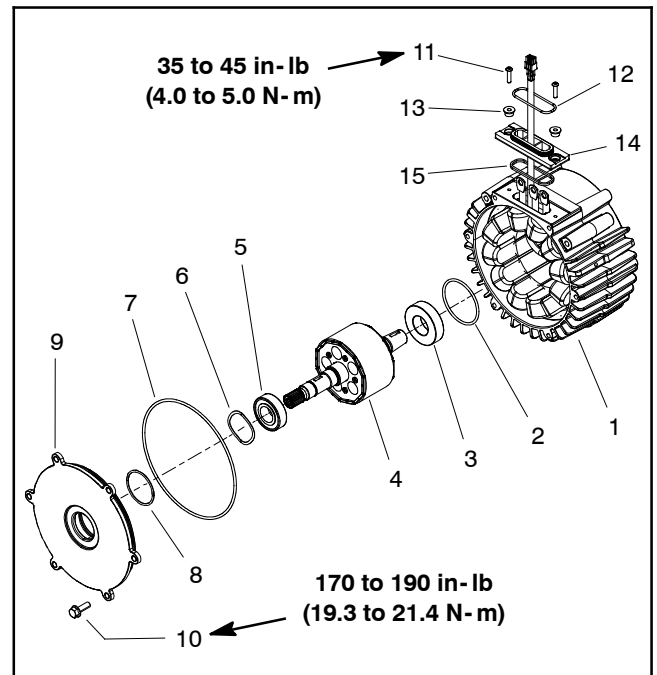

Figure 100
6. Remove nut (item 19) that secures fan to motor/generator shaft.
7. Remove motor/generator fan and two (2) spacers from motor/generator shaft. Locate and retrieve woodruff key.
8. Remove internal motor/generator assembly components (Fig. 100):
- A. Remove six (6) flange head screws that secure cover to housing. Leave cover on rotor shaft.
2. Install internal motor/generator assembly components (Fig. 100):
C. Lubricate new O-ring (item 2) with dielectric lubricant (see Special Tools in this chapter) and install into groove in housing bearing bore.